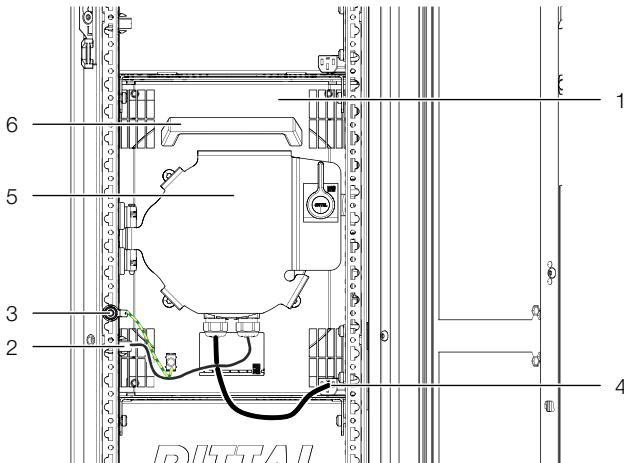

Fig. 52: Fan module in fan tray
- Release the two fan connectors DC and AC on the left and right (fig. 52, item 2 and 4).
- Disconnect the earth connection on the fan (fig. 52, item 3).
When making the connection, ensure that both cables of the fan are not routed too close parallel to each other over longer paths. Fig. 52 shows an optimum laying of the cables.